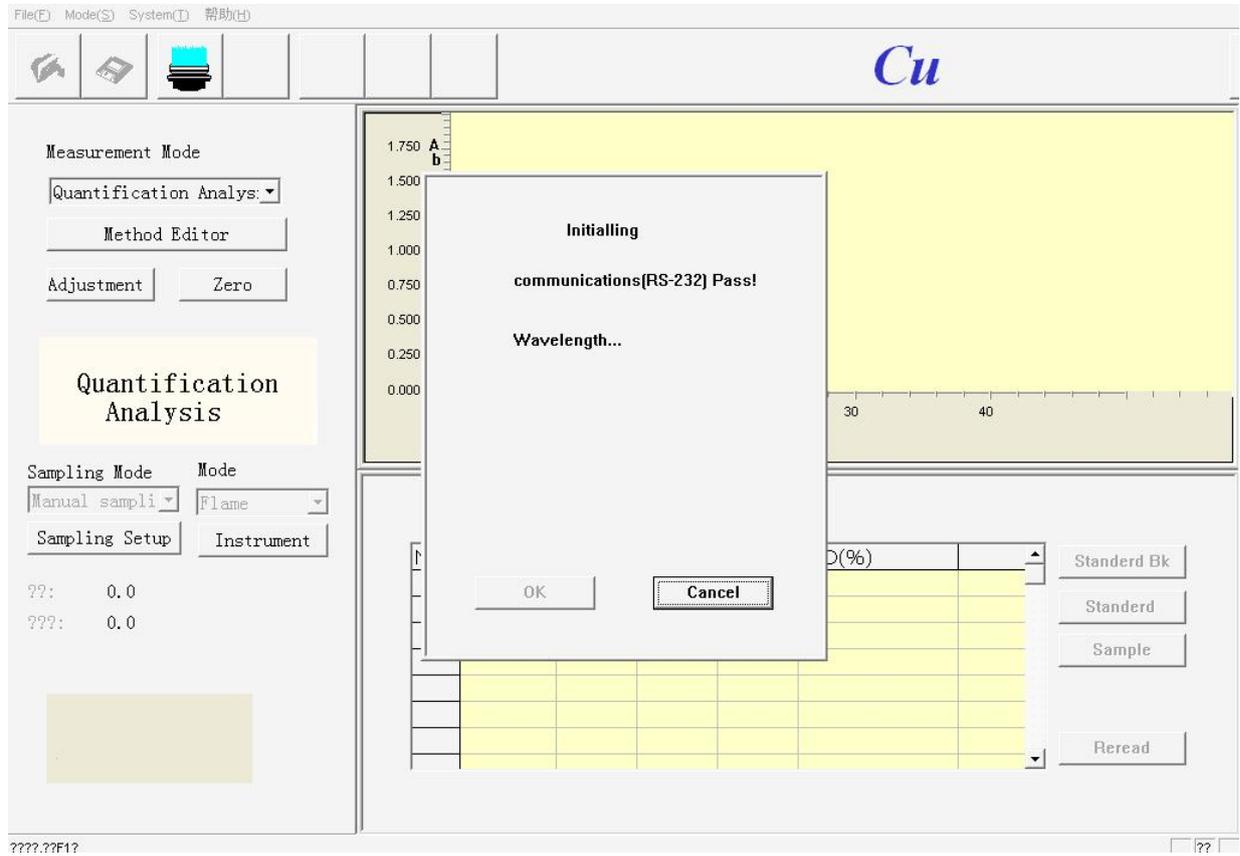

Figure 4-2
- 2.Click on “AAS”icon twice,open the workstation,it start self-test (Figure 4-2)